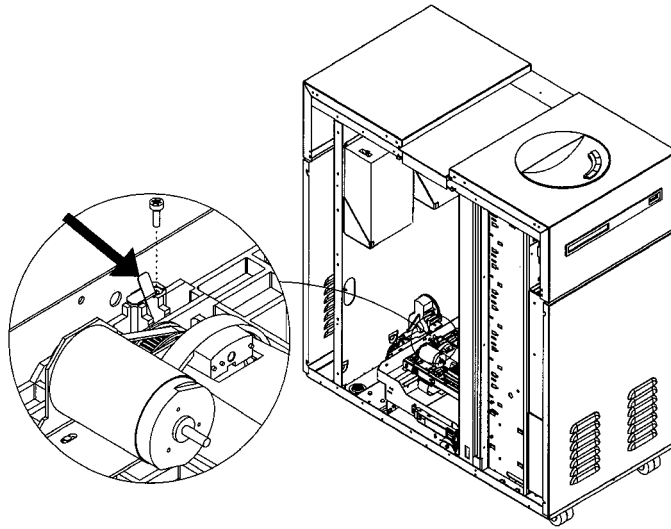

Figure 27: Releasing the Picker Capture Bracket
6. Remove the T-10 sheet metal screw that holds the capture spring down (see Figure 27).